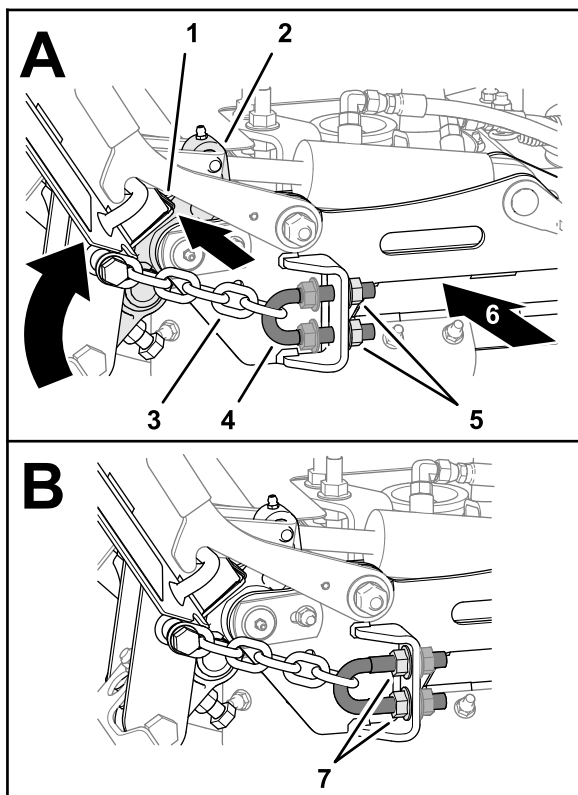

Figure 36
3. At the back of the deck, tighten the inboard serrated-flange nuts until the chains are tensioned (Figure 36).
4. Thread the outboard serrated-flange nuts (Figure 36) and torque them to 103 to 127 N·m (76 to 94 ft-lb).